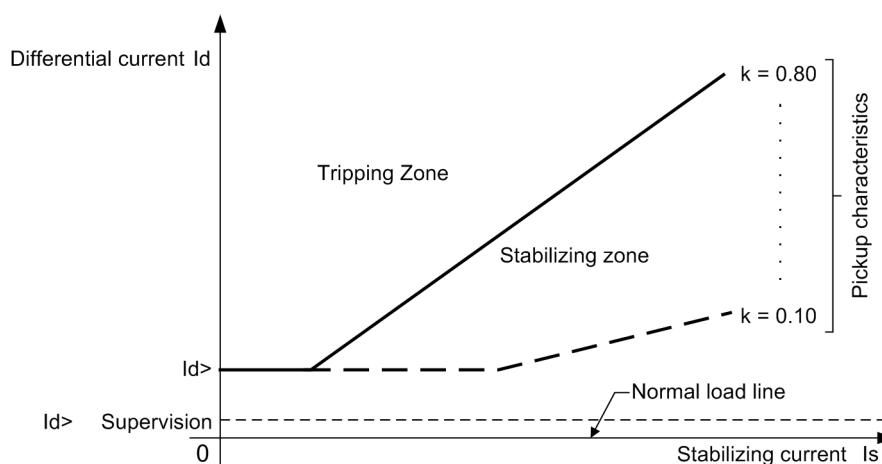

Figure 1-2 Pick-up characteristics of the busbar and breaker failure protection (unbalancing)
- Evaluation of the differential current in conjunction with through-current stabilisation (Figure 1-2, page 27)
- Busbar protection with up to 12 bus zones (BZ), 12 bus coupler (auxiliary bus) sections (AB) and up to 48 bay units
- Normal pick-up characteristic (Figure 1-2, page 27)